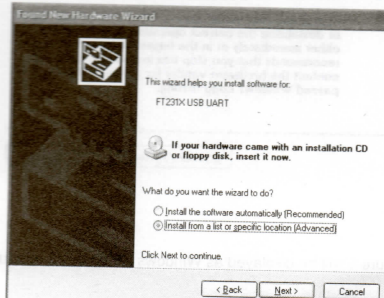

Figure 2
- Select "Install from a list or specific location (Advanced)" as shown in Figure 2 below and then click "Next".